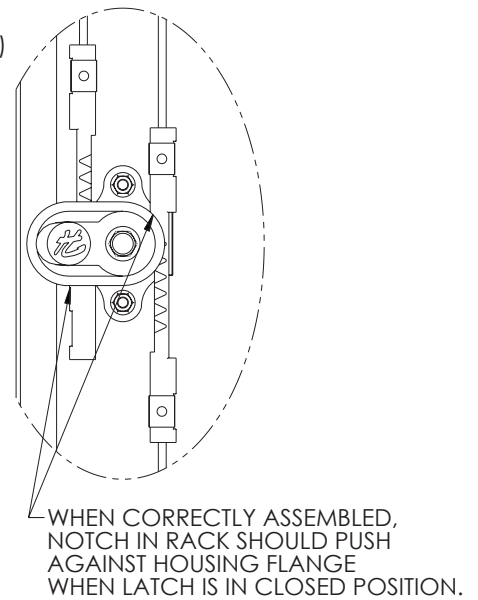

FIGURE 2
Step 3 - Assemble handle to latch housing as shown in figure 2.